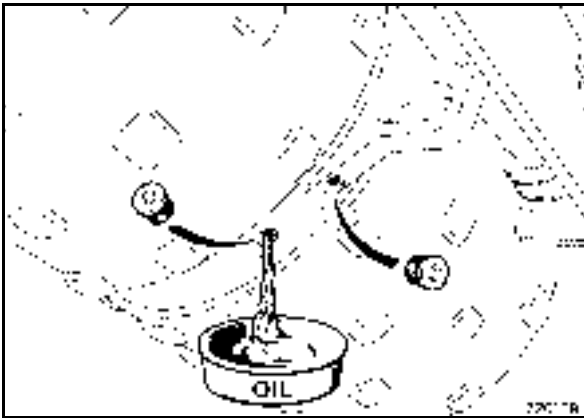

Fig. 108
- Unscrew the drain and filling plug on the front drum (Fig. 108).
- Unscrew the drain and ventilation plugs (Fig. 108) from the upper drum.